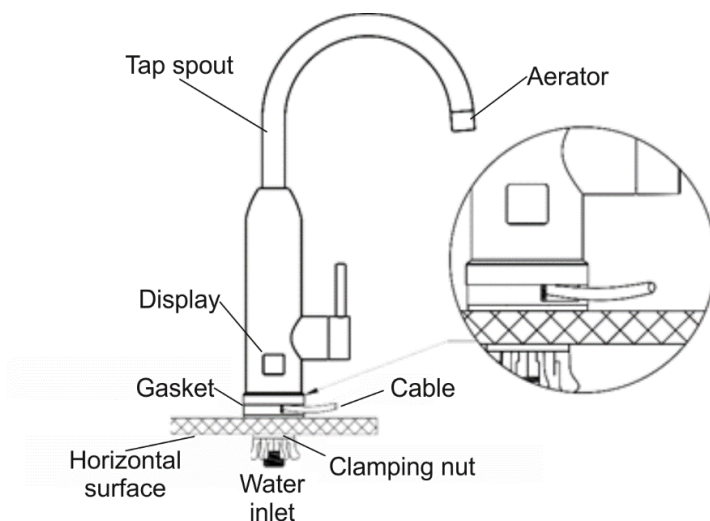
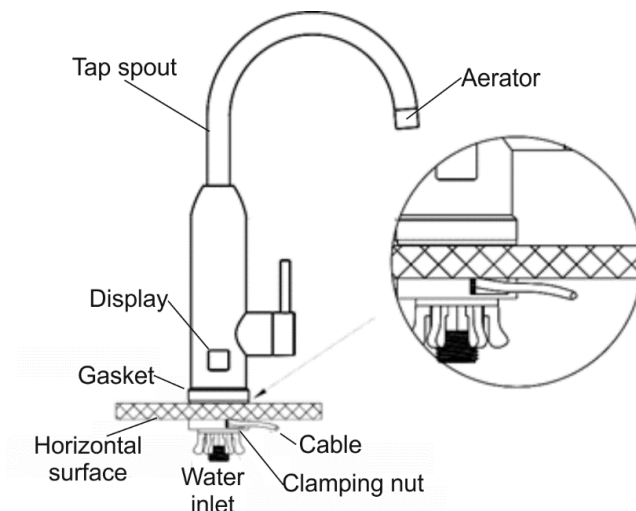

Figure 1. Installation with the output of the power cable above the sink
Figure 2. Installation with the output of the power cable under the sink
2. Install the IEWH on the sink in accordance with the selected installation option, following the scheme from Figure 1 or Figure 2.
The safety valve has tripped	- Disconnect the appliance from the mains and stop the water supply - Insert the rubber plug of the safety valve (Fig. 1) into the starting position - Supply water to the IEWH, wait for the water to pour out of the spout, stop the water supply. Check the density of all connections - Connect the device to the power supply.